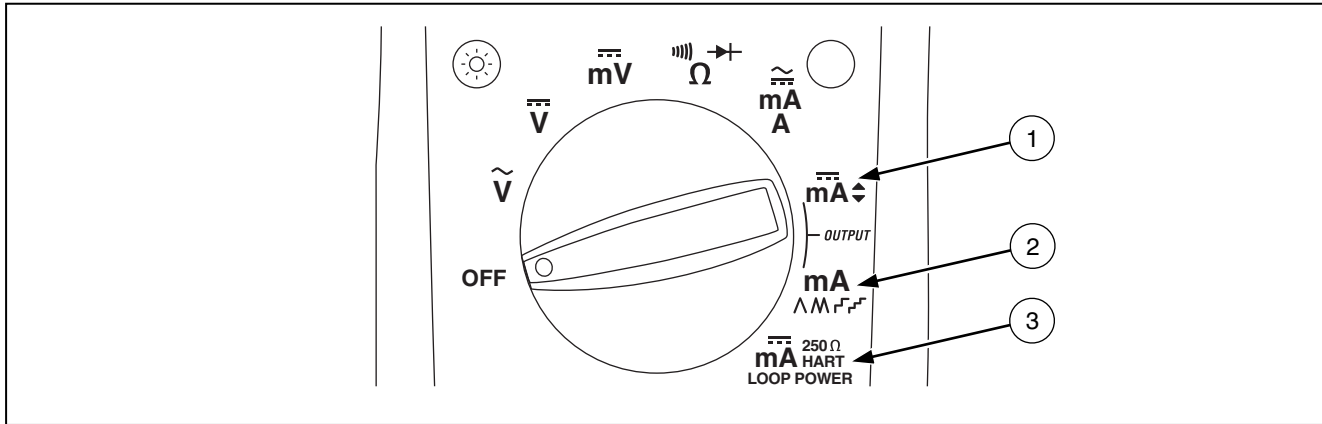

Figure 4. Rotary Function Switch Positions for mA Output
- Figure 4 and Tables 4 and 5 describe the output functions of the last three rotary function switch positions.